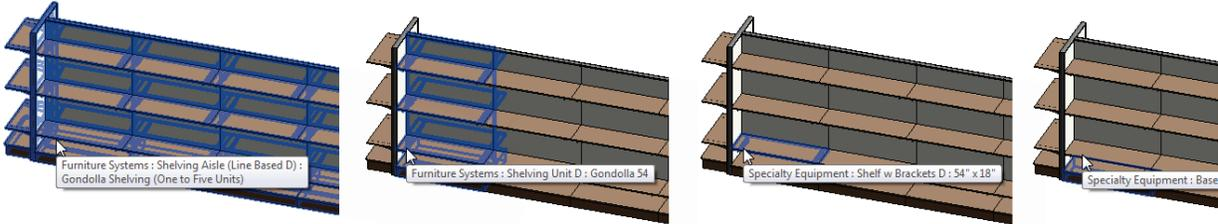

Figure 17—Nesting multiple levels
- **Give careful consideration to how many levels of nesting you introduce**—It is possible to nest multiple layers deep. In other words, you can nest family A into family B and then in turn nest family B into family C and so on. There can be benefits to doing this, but each level of nesting you introduce will increase the complexity of the final family and make it more challenging to track down problems when it does not flex properly. Multi-level families have been created quite successfully, but careful planning and documentation is a must. If you are not sure how deep to nest, start with a manageable rule-of-thumb of say three levels and work from there. If you are building a family that seems to need more than three levels, don't immediately rule it out, just let it be a small red flag that tells you to look for other ways to solve the problem. If no viable alternative can be determined, then “break the rule” for that family (see Figure 17).